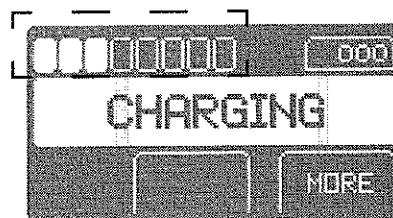

Figure 8 Charging Message and Bars Increase from Left to Right
2. The CHARGING message (see figure 8) will appear on the information screen and the associated yellow indicator light will illuminate.